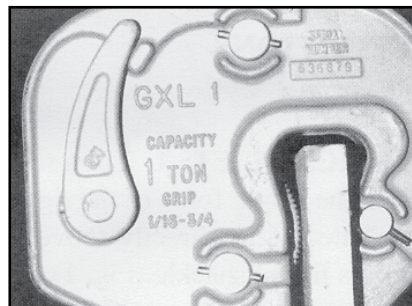

Figure 4
**WORKING LOAD LIMIT (WLL):** The maximum load that should ever be applied to a Campbell clamp. The Working Load Limit is forged into or stamped on the body of every clamp (Fig. 4).